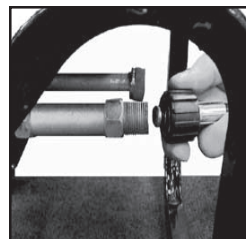
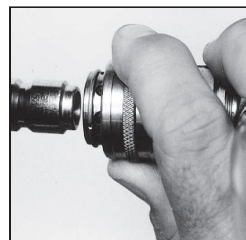

Figure 2
Figure 3
4. Connect high pressure hose to pump outlet — Figure 2 for threaded hoses. Figure 3 for hose with quick connects.